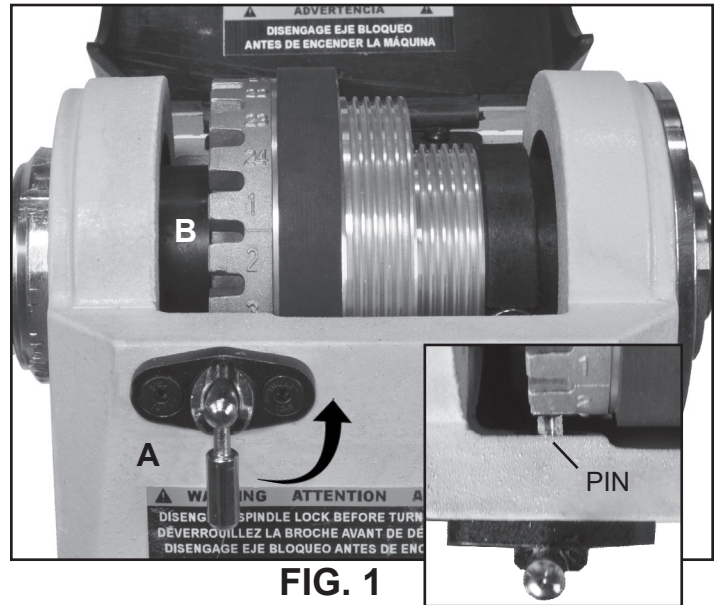

FIG. 1
1. **HEADSTOCK SPINDLE LOCK:** The spring loaded Index Pin Assembly (#39B, FIG. 1, A) is used to position the spindle for making accurate, spaced pattern work on projects such as straight fluting, grooving, drilling, detail carving, wood burning patterns and laying out designs. See page 15 for more information on indexing.
2. **HEADSTOCK INDEXING HOLES:** (FIG. 1, B) The largest Spindle Pulley (#24B) has 24 positioning 'holes' located around its left side. Each index hole is 15° apart, and marked for reference around the pulley perimeter. Insert the Indexing Pin (A) into one of these holes, and the spindle will be locked so that work can be done on the workpiece. See page 15 for additional information.